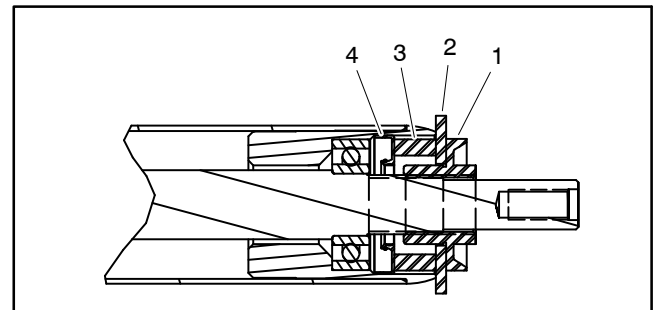

Figure 40
8. Position an assembly spacer and yellow assembly washer (see Special Tools) on each end of roller shaft (Fig. 40). Thread nut onto each end of shaft.